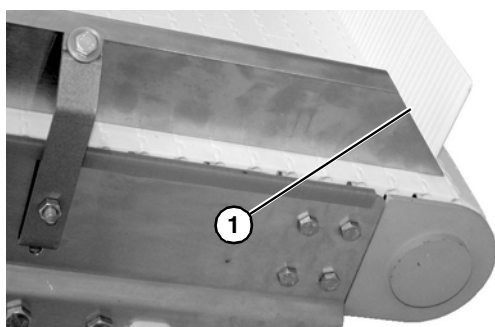

**Figure 21**
3. Attach guide (**Figure 21, item 1**) to the mounting brackets with hex bolts and spacers (**Figure 21, item 2**). Hand tighten only at this time.
4. Ensure that nose of bracket slips under the lip of guide (**Figure 21, item 3**).